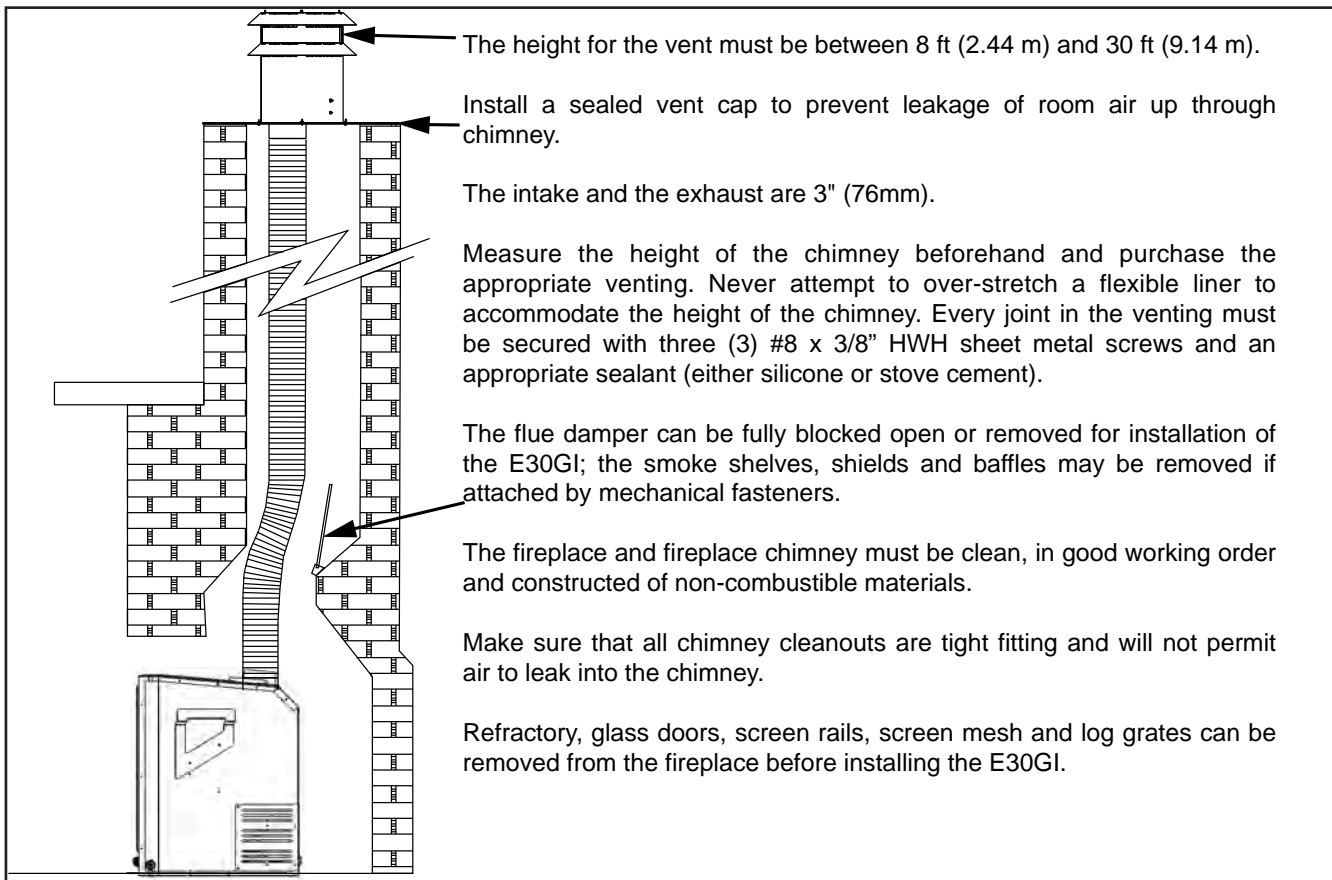

Figure 25: Installation of E30GI DV .
1. Plan your installation and clearances to combustibles. The E30GI may be installed and vented into any solid fuel fireplace that has been installed in accordance with the National, Provincial/State and local building codes and has been constructed of non-combustible materials. Also refer to the INITIAL INSTALLATION - PREPARING YOUR E30GI FOR INSTALLATION and CLEARANCES TO COMBUSTIBLES sections. Refer to Figure 25 throughout installation.